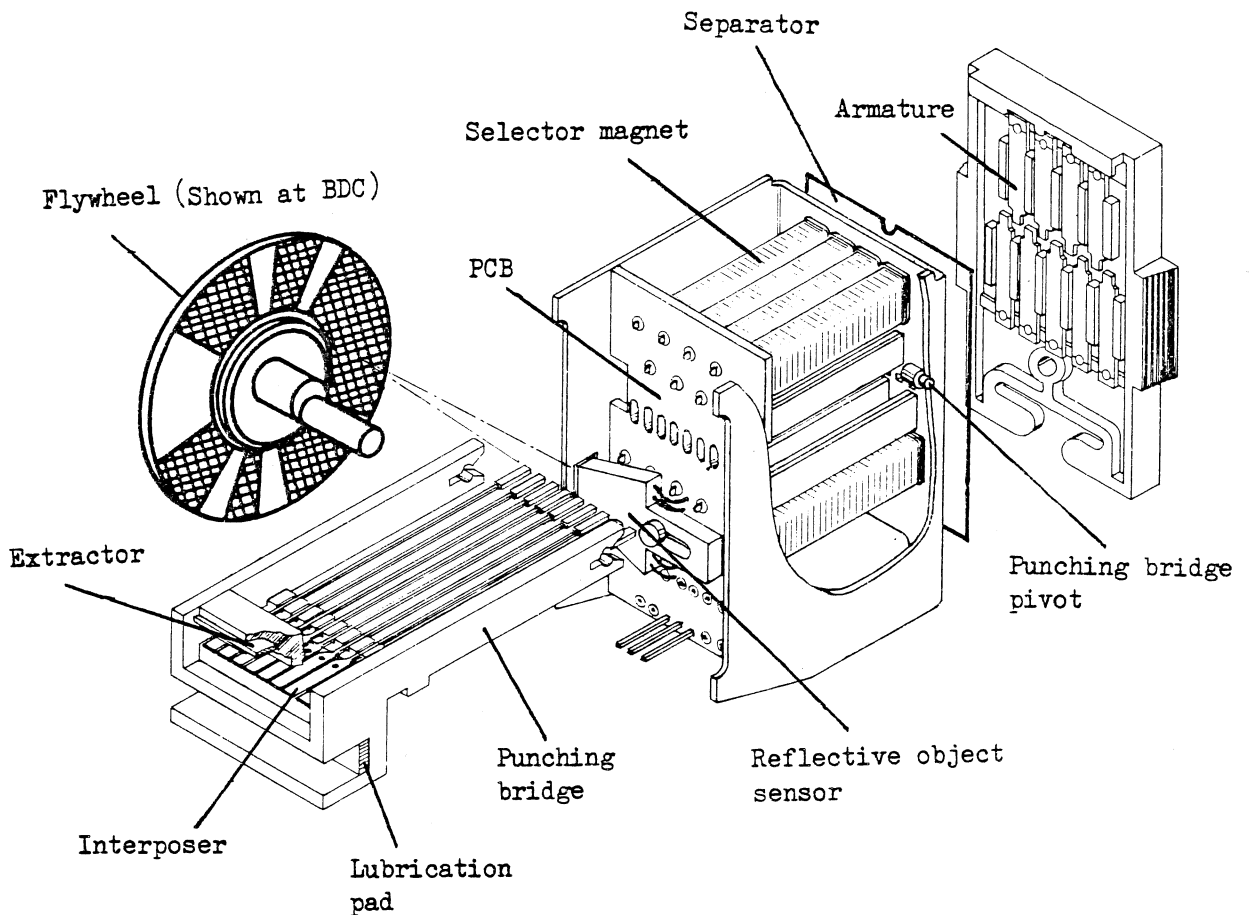

Fig. 4.3 Selector Box
4.3 SELECTOR BOX (SEE FIG. 4.3)